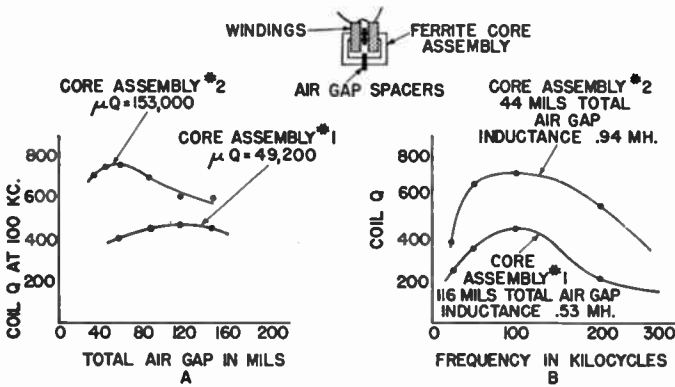

Fig. 6—Effect of μQ of core material on coil Q for (A) different air gaps and (B) different frequencies.
coil will pass through a peak at a certain optimum value of effective permeability. The peak Q of the coil thus obtained and the corresponding optimum value of effective permeability both will be directly proportional to $\sqrt{\mu Q}$ of the ferrite material used in the core, as developed mathematically in the Appendix. Experimental data illustrating these relationships are given in Fig. 6. The same experimental winding was used on two different assemblies of U-shaped core parts, which were similar except that the μQ product of one core assembly was slightly over three times that of the other. The ratio between the values of $\sqrt{\mu Q}$ for the two core assemblies was 1.76. The air gap of each core was varied to determine the peak coil Q at 100 kc, as shown in Fig. 6(A). Fig. 6(B) shows the change of coils Q 's with